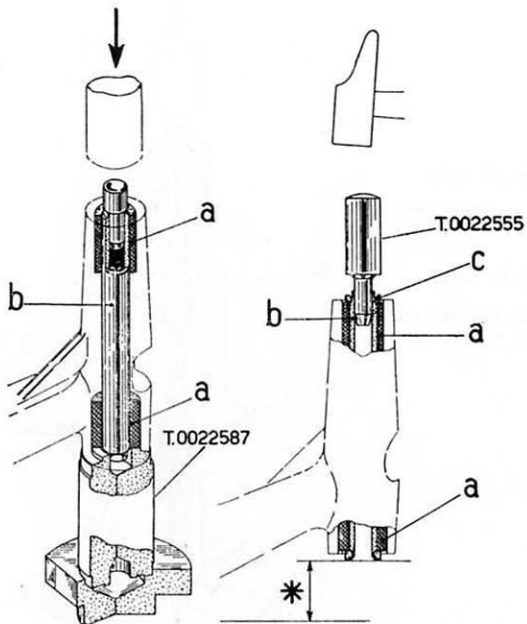

Fig. 91. Assembling spacers.
- Centralise the spindle in the swinging arm, if necessary, operating by means of a hand press on the spindle end which stands out more than required. The spindle should protrude from the swinging arm (flywheel side) so that after assembling the spacer and bending the spindle end (operation 4), the latter is  $45.3 \pm 0.5$  mm ( $1.8 \pm 0.02$ "') away from the joining surface of the crankcase halves (see dimension marked with an asterisk on Fig. 91).
- Mount the spacers **c** (Fig. 91) and bend both ends of spindle **b**. See that the proper spacer (part No. 47946 or 48988 or 48989) is mounted on the bush with small diameter so that the latter is axially force-fitted by 0.15 mm (0.06"').
**Notice.** These components can also be assembled when the engine is completely mounted. In such as case, of course, measuring the dimension marked with an asterisk on Fig. 91 would be very difficult; the Retailers should, therefore, make sure that the spindle stands out by the same amount on both sides of the swinging arm.